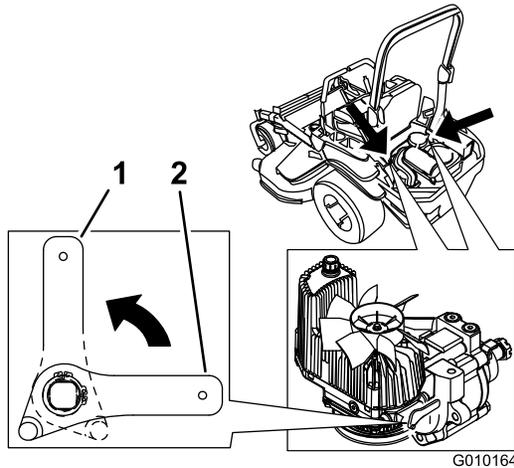

Figure 37
2. Rotate the release valve levers vertically to push the machine. This allows hydraulic oil to bypass the pump enabling the wheels to turn (Figure 37).
4. Rotate the release-valve levers horizontally to run the machine (Figure 37).